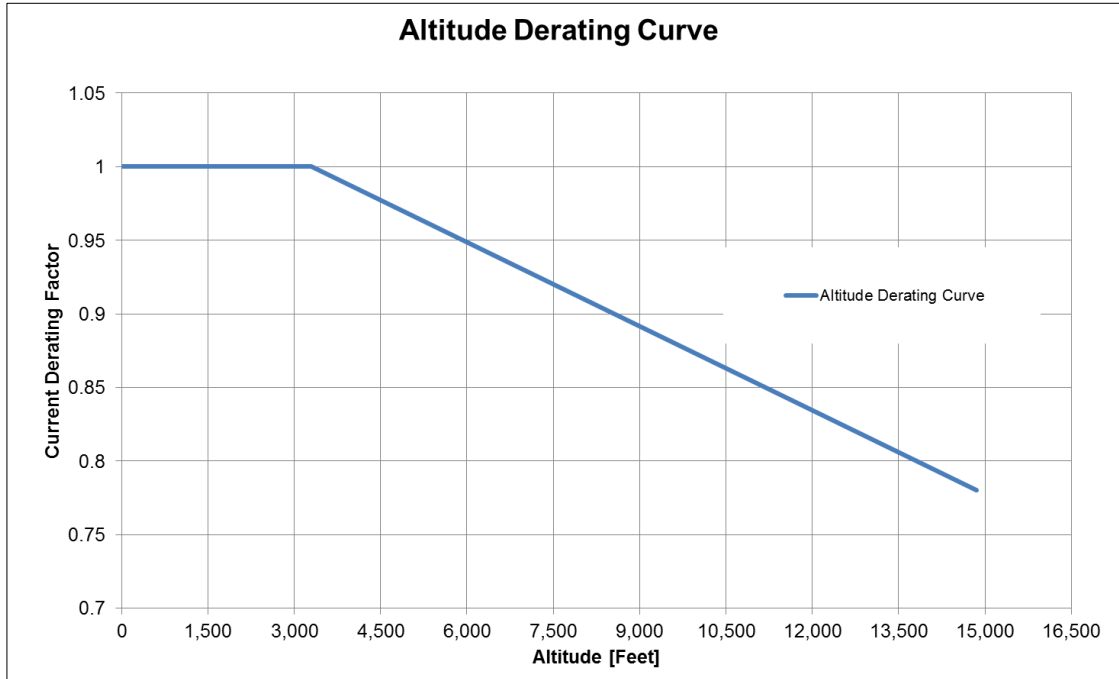

Figure 3-5: Altitude Derating Curve
*See Figure 3-5: Altitude Derating Curve (p11)
- Altitude:** 3,300 feet above sea level without derating, see Figure 3-5: Altitude Derating Curve (p11) for derating curve.